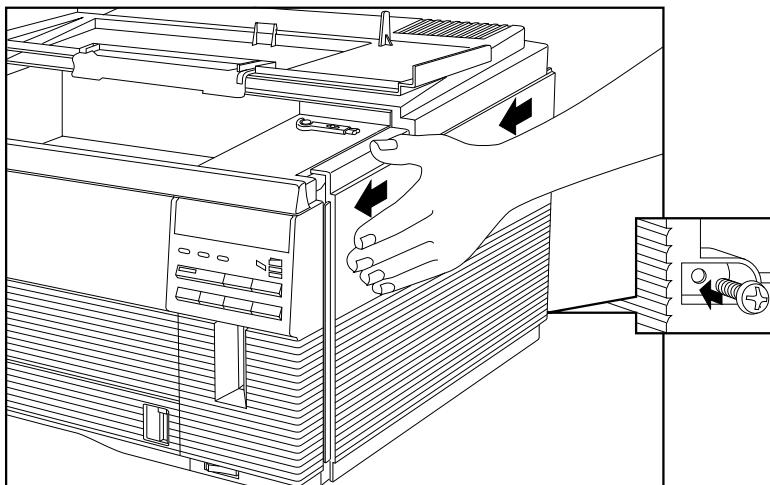

Fig. 9.18 Position the Side Cover
- Slide the side cover back into position by pushing it toward the front of the printer (fig. 9.18).